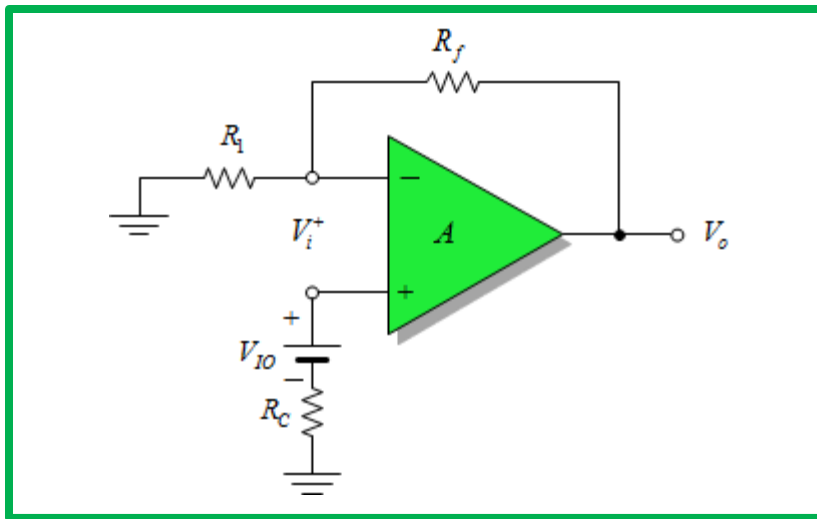

Fig. 14: Input offset voltage effect ckt.
- ❑ The manufacturer's specification sheet provides a value of V_{IO} for the op-amp. To determine the effect of this input voltage on the output, consider the connection shown in Fig. 14. Using $V_o = AV_i$, we can write
- Calculate the offset voltage of the ckt in Fig. 14 for the op-amp spec listing $I_{IO} = 100 \text{ nA}$.